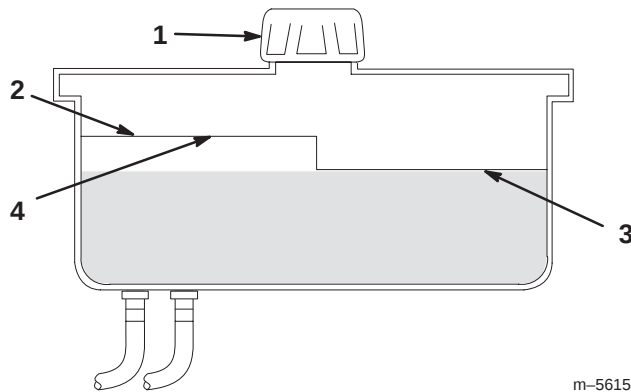

Figure 48
2. Clean area around filler neck of hydraulic tank (Fig. 48).
3. Remove cap from filler neck. Look inside to check if there is fluid in the reservoir. (Fig. 48).
Note: The fluid level should be to the top of the **hot** level of the baffle, when the fluid is warm (Fig. 48).